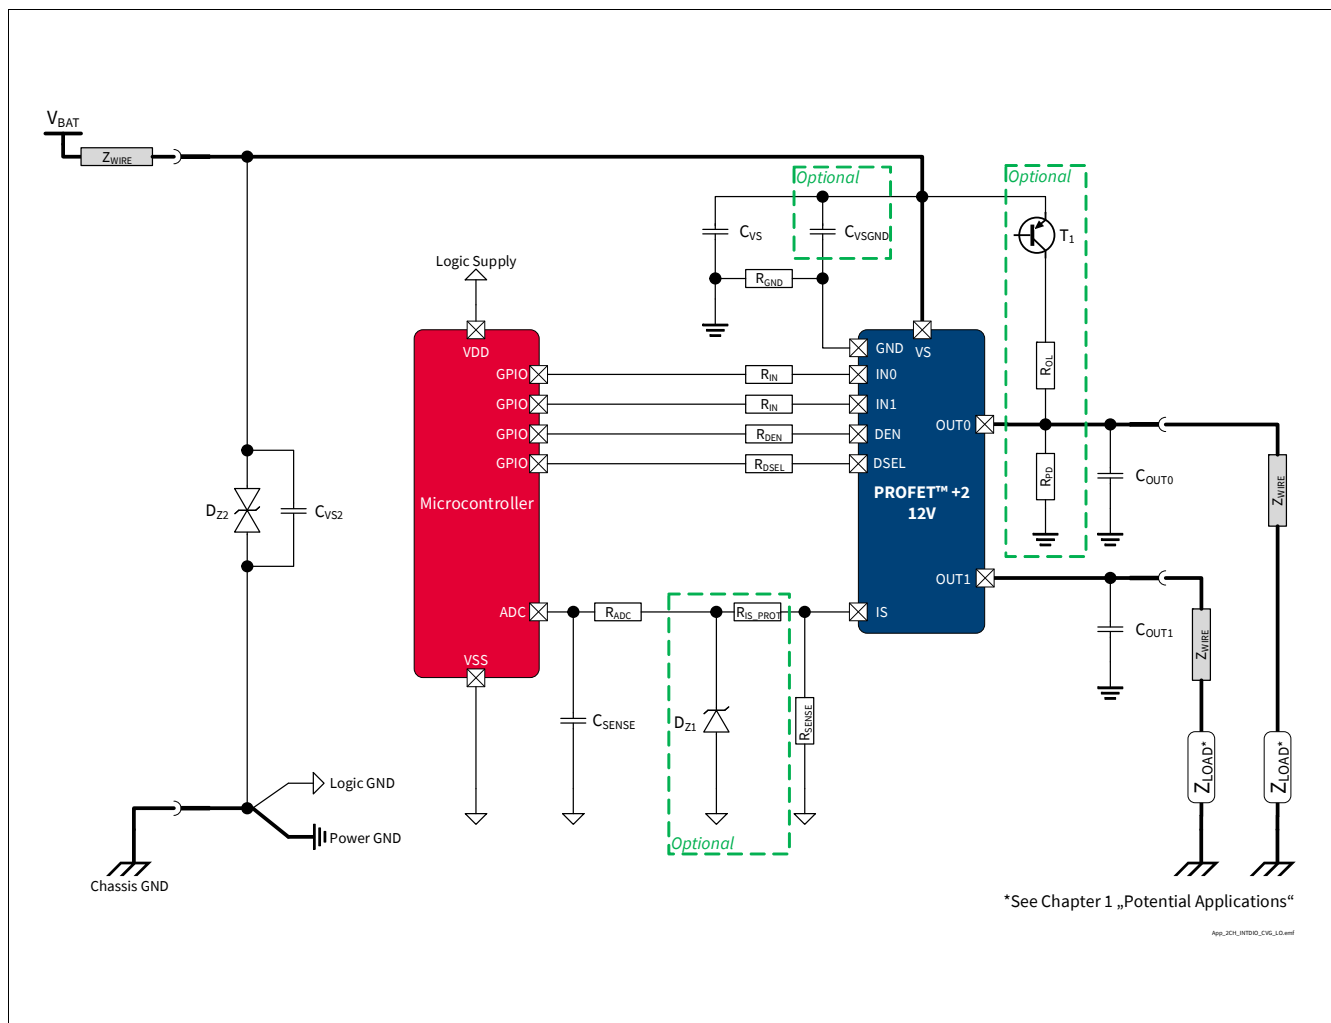

Figure 43 **BTS7040-2EPA Application Diagram**
1.05 , 2019-10-15	P_8.7.6.1, P_8.7.6.7, P_8.7.6.8 updated (added in Note or Test Condition: link to Figure 25) P_8.7.6.6 updated (added in Note or Test Condition: link to Figure 26) P_7.5.6.4, P_7.5.6.5 updated (added in Note or Test Condition: DEN = “low”; link to Figure 19) P_7.5.6.12 updated (added in Note or Test Condition: see Figure 21; deleted unnecessary space in Symbol: $dV_{OUT} / dt \rightarrow dV_{OUT} / dt$) P_9.7.6.1 updated (added in Note or Test Condition: See Figure 34) P_9.7.6.6 updated (Min./Typ./Max.: -40%/1800/+40% → -26.0%/1750/+26.0%) P_9.7.6.8 updated (Min./Typ./Max.: -35%/1800/+35% → -23.5%/1750/+23.5%) P_9.7.6.9 updated (Min./Typ./Max.: -30%/1800/+30% → -20.5%/1750/+20.5%) P_9.7.6.12 updated (Min./Typ./Max.: -26%/1800/+26% → -19.0%/1750/+19.0%) P_9.7.6.15 updated (Min./Typ./Max.: -11%/1800/+11% → -9.7%/1805/+9.7%) P_9.7.6.17 updated (Min./Typ./Max.: -6%/1800/+6% → -6.0%/1805/+6.0%) P_9.7.6.19 updated (Min./Typ./Max.: -5%/1800/+5% → -4.5%/1805/+4.5%) P_7.5.6.11 updated (added in Note or Test Condition: see Figure 19) Figure 1, Figure 43 updated Chapter 1 updated (or LED equivalent → or equivalent electronic loads (e.g. LED modules)) P_4.3.0.7 added Table 24 updated Chapter 5.1 updated (added: see Chapter 10 for the complete application setup overview)